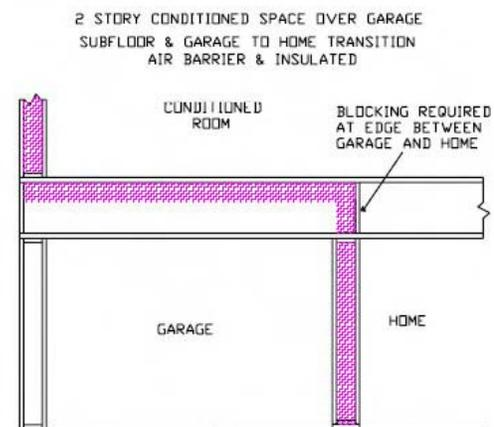

FIGURE 4
- When the insulation is installed underneath the floor of the conditioned space above the garage, an air barrier (blocking) shall be installed between the garage and first story of the home that is insulated (see Figure 4 on the next page) with an R-value equal to or greater than the wall insulation R-value listed on the CF-1R Form .